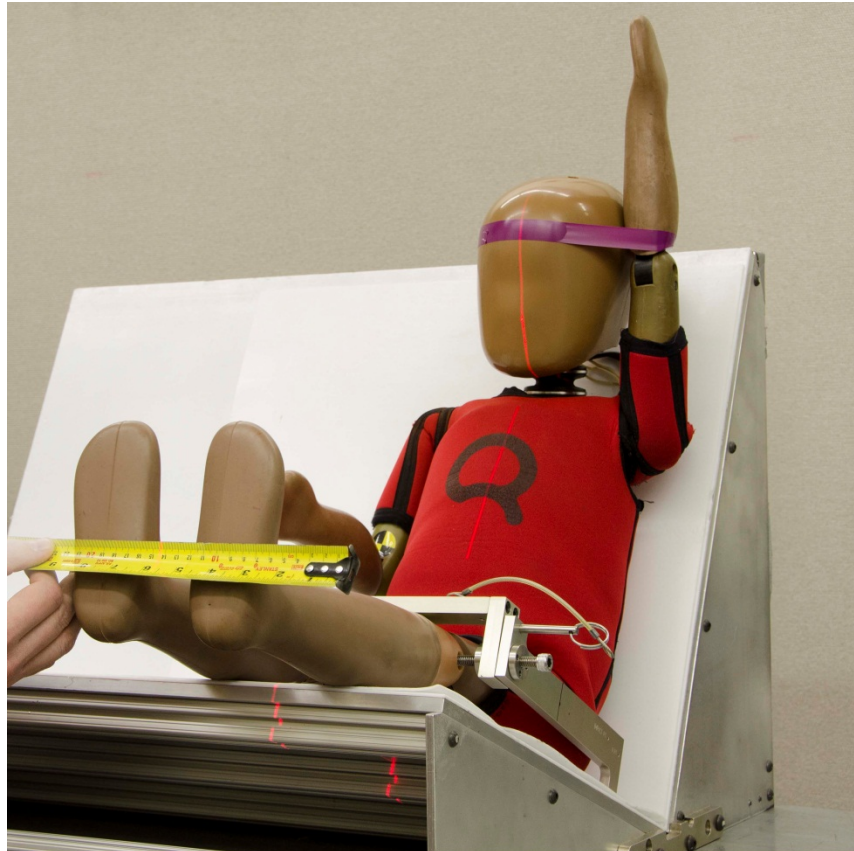
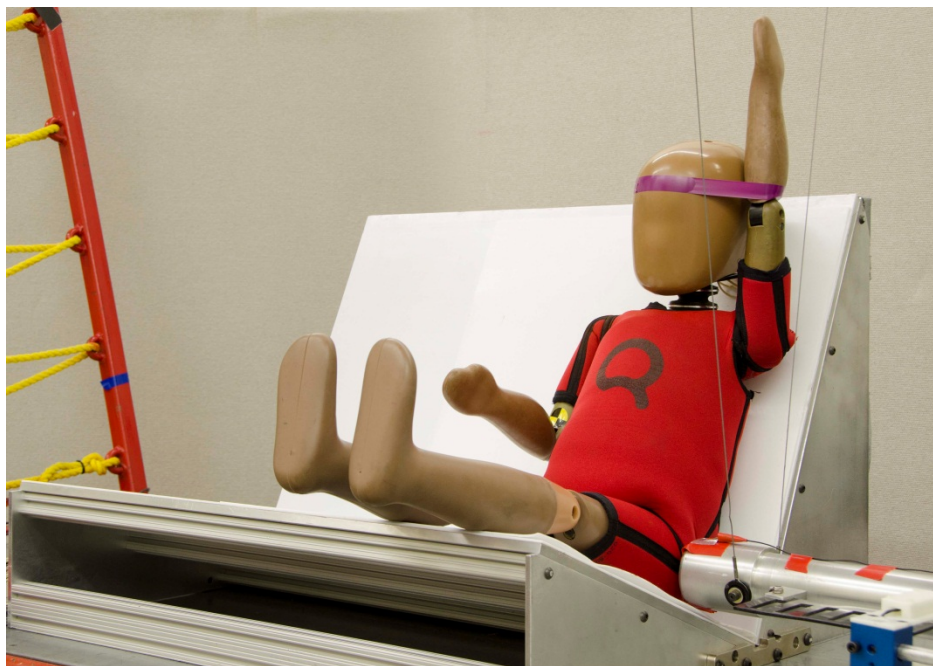

Figure 135. Adjusting the dummy laterally
Figure 136. Final setup for Q3s pelvis Qualification test
- Install the interface plate to the bottom of the pendulum using four (4) M6 x 15 SHCS (Figure 135 and Figure 136).
- Install accelerometer to the pendulum (Figure 136).